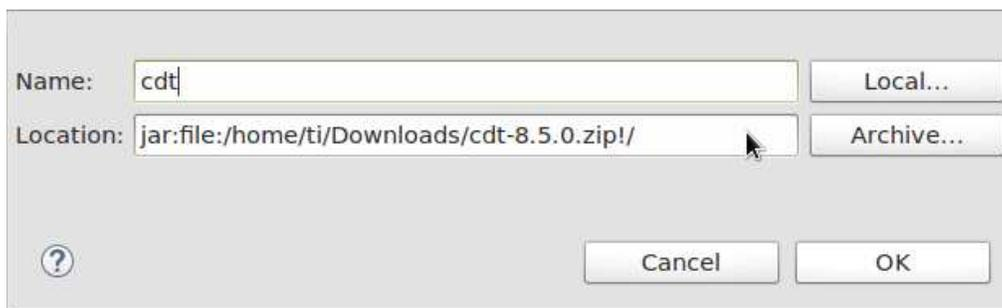

Figure 5. Installing CDT (Linux)
3. Select Add → Archive... and browse to your downloaded archive file. Name it CDT and click OK (see Figure 5).